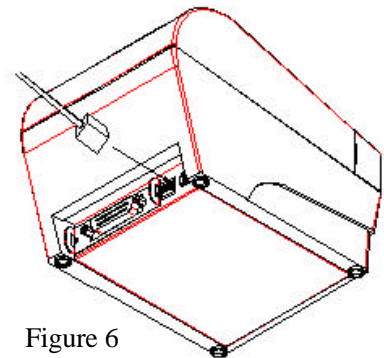

Figure 6
- 2) Orienting the connector of the cash drawer kick-out cable correctly, insert it into the cash drawer kick-out connector on the back of the printer. (See figure 6)